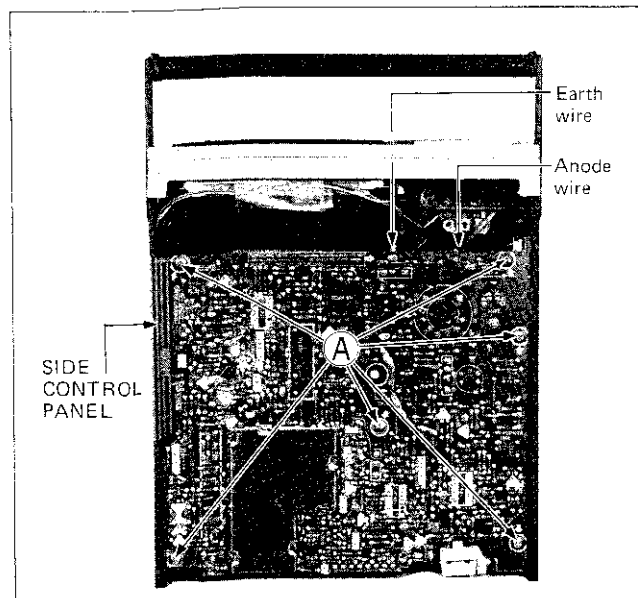

Fig. 2-1
1. Unfasten the six screws marked (A) in Fig. 2-1.